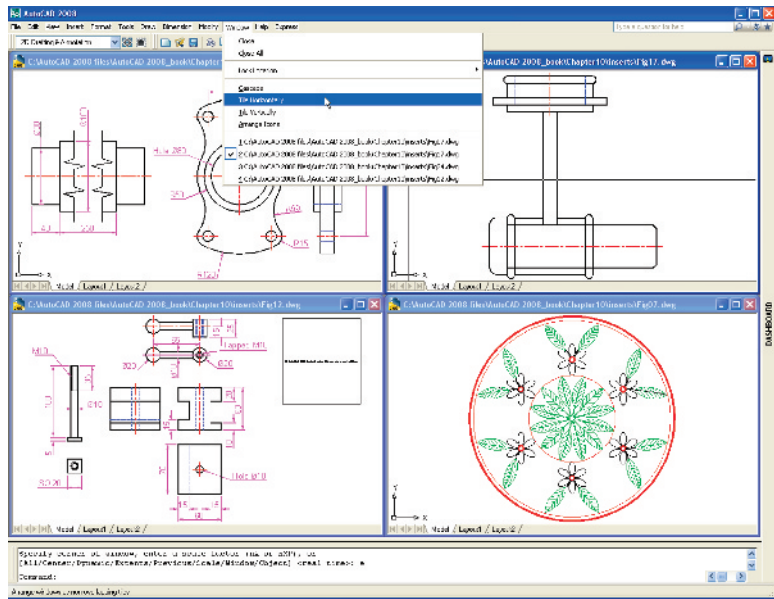

Fig. 10.23 Four drawings in the **Multiple Document Environment**
2. In the **Window** drop-down menu, *click Tile Horizontally*. The four drawings rearrange as shown in Fig. 10.23.